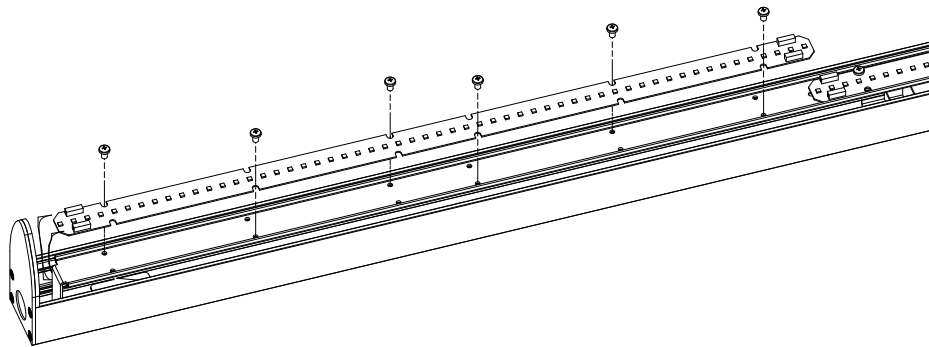

Figure 5
2. Remove the red and blue wires by pressing the connector at the depressed spot. See Figure 5.